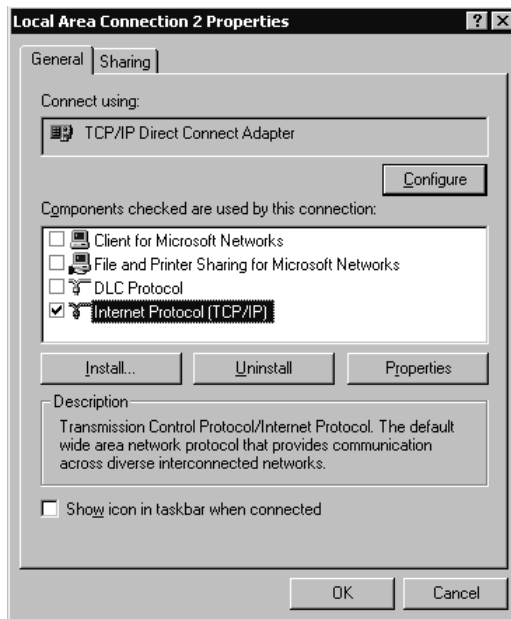

Figure 5-8. Adapter Properties for TCP/IP direct Connect
6. Uncheck **Client for Microsoft Networks**, **File and Printer Sharing for Microsoft Networks**, and **DLC Protocol** since these services are not supported on the mainframe (Figure 5-8). Highlight **Internet Protocol (TCP/IP)** and click on **Properties**.